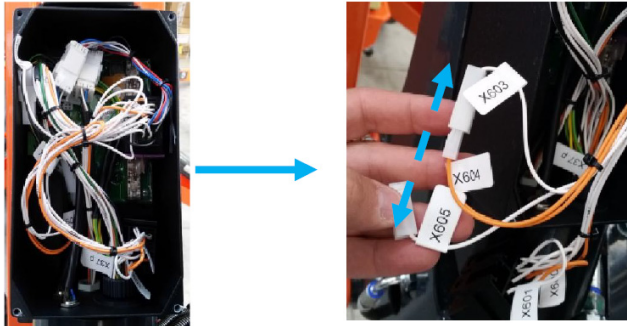

Figure 4-32.
11. Open load cell board (ECM3) box, locate connectors X604 and X603, then disconnect them. See Figure 4-32.